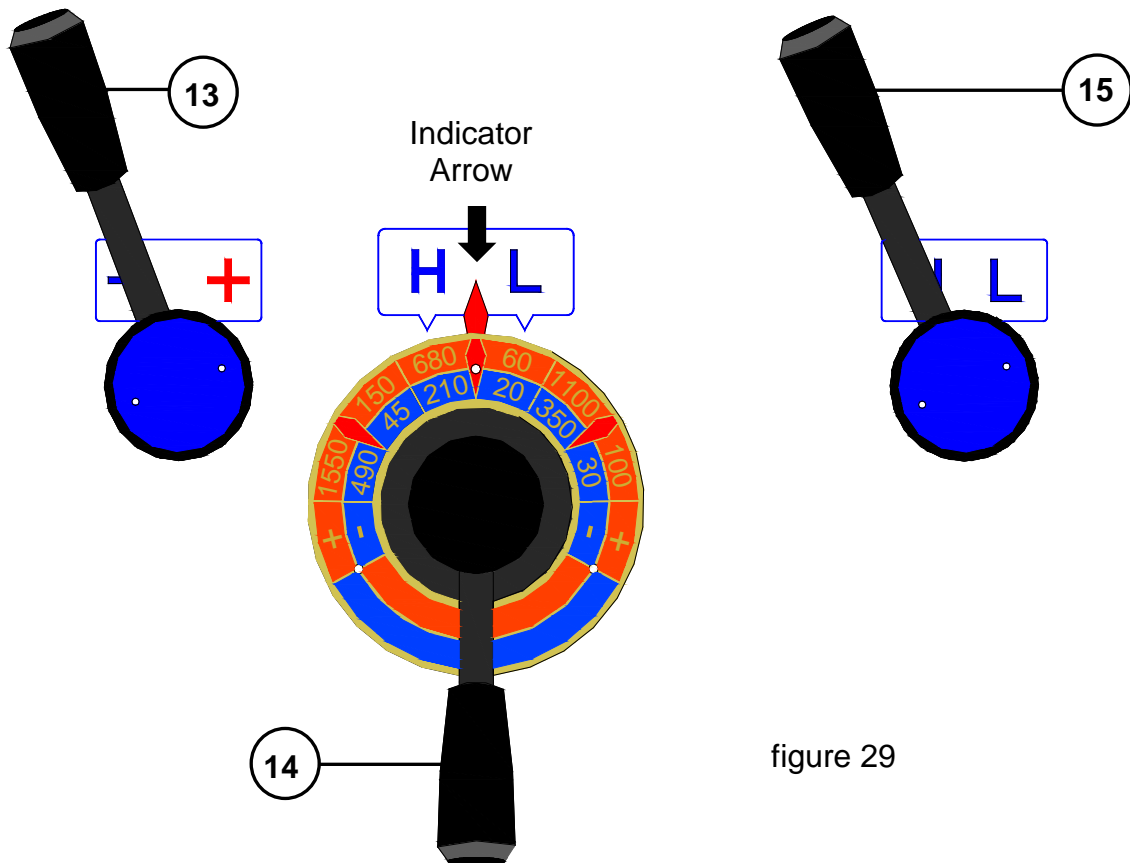

figure 29
The speed of the spindle is set by the position of the three speed control handles as shown in (fig. 29). As an example they will be set for a speed of 210 RPMs. The 210 RPM selection is in the blue area, so selection handle (13) should be in the minus (-) position as shown. The selector handle (14) is rotated to the center position. Each of the three positions will click when the handle is properly rotated. To the left of the indicator arrow is the 210 RPM value. The (H) indicates high speed, whereas the 20 RPM value would be the low (L) speed setting. The selector handle (15) is therefore set to (H) for high speed. Spindle speed is measured in RPM (revolutions per minute). The following 12 spindle speeds are possible on this lathe: 20, 30, 45, 60, 100, 150, 210, 350, 490, 680, 1100, and 1500 RPM.